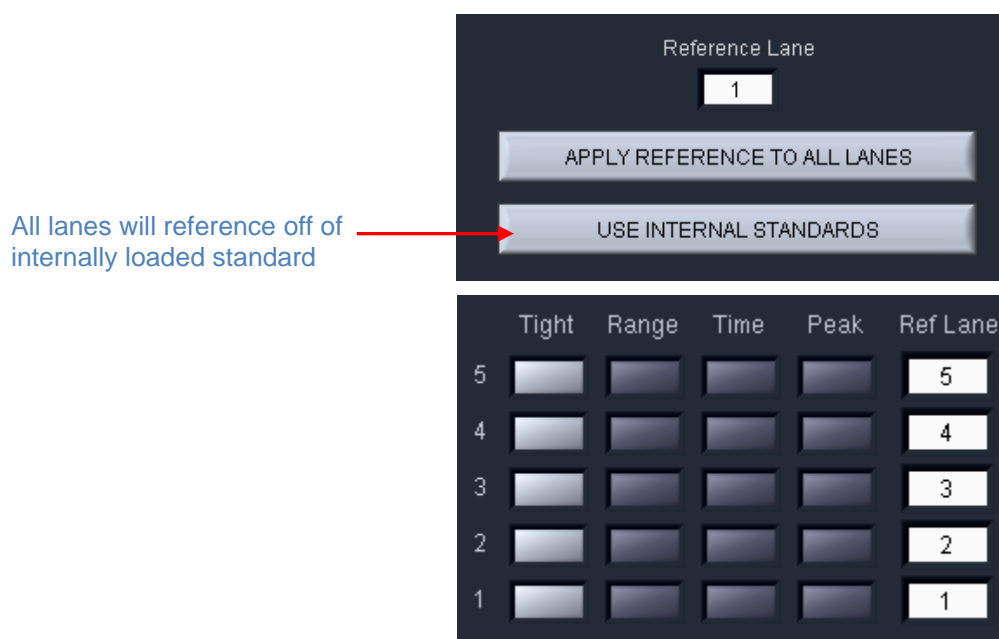

Figure 7.2. The correct configuration for a protocol using internal standards.
3. **Figure 7.2** shows the correct assignment of marker lanes for internal standard runs.